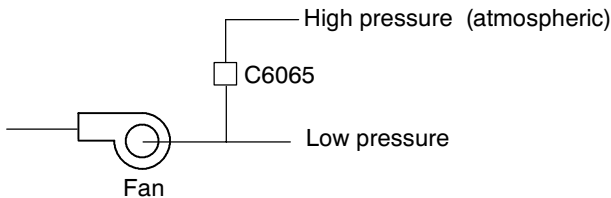

Fig. 1. Air path circuit
- Appliance must stop if the air inlet or flue outlet becomes restricted, resulting in a hazardous combustion situation. The air path circuit shown in figures 1., and 2. is suitable.